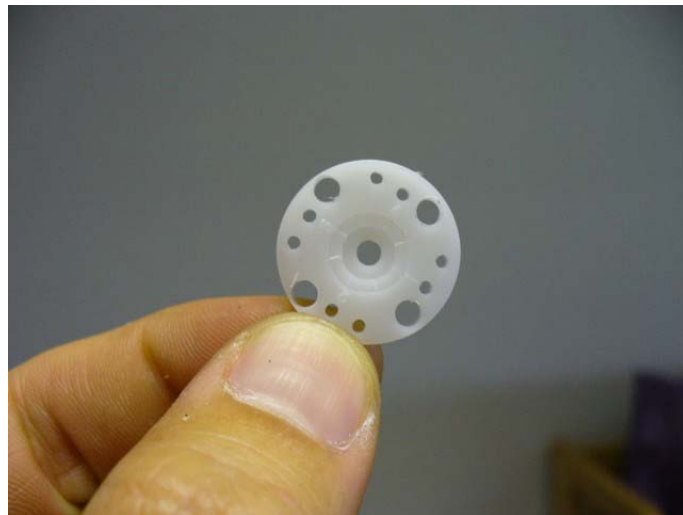

Figure 8 Drilled horn set piece
6. Unscrew and remove the horn set piece out from the servo motor #4. Drill 4 holes with diameter 3 mm on the horn set piece as shown in Figure 8. Attach the horn set piece to the first C-shape part with 4 pairs of nuts and bolts.